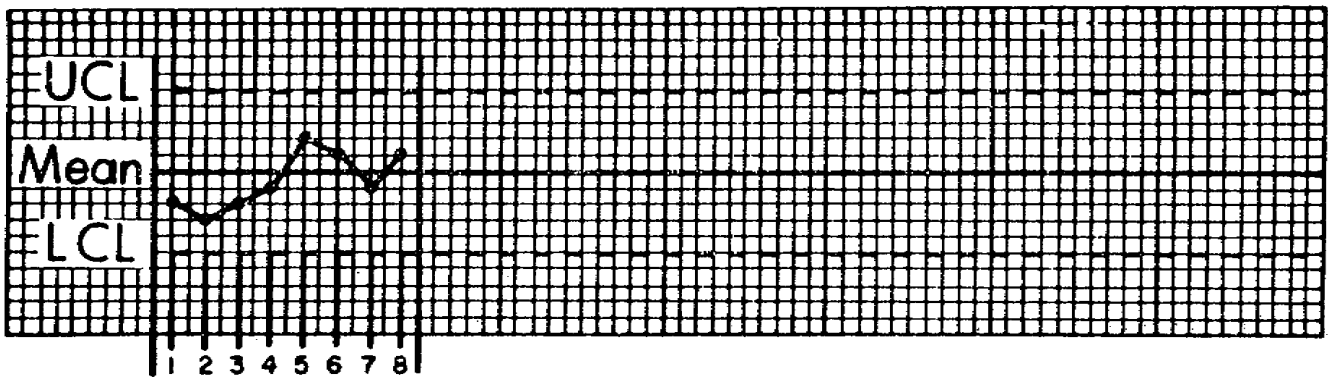

Figure 28
d. In figure 28 we have added some dots, connected by lines. These dots, for the purpose of this control chart, are plotted gamma values for eight consecutive days. By merely connecting the dots we make them easier to follow. Notice that all the dots are within the central limits, which means they are acceptable. These are called “chance causes.” They are both above and below the target line, which is what we call random variation.